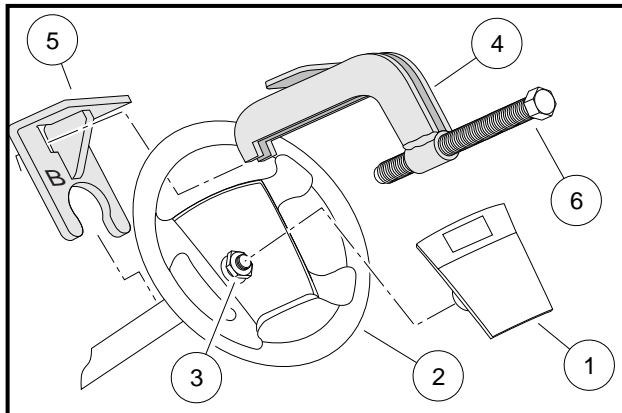

Figure 7-1 Steering Wheel Puller
- 4.1. Place the puller anvil (4) through the top opening of the steering wheel (**Figure 7-1, Page 7-2**).
- 4.2. Insert the anvil feet through the two slots in the base plate (marked "B") (5) as shown (**Figure 7-1, Page 7-2**).